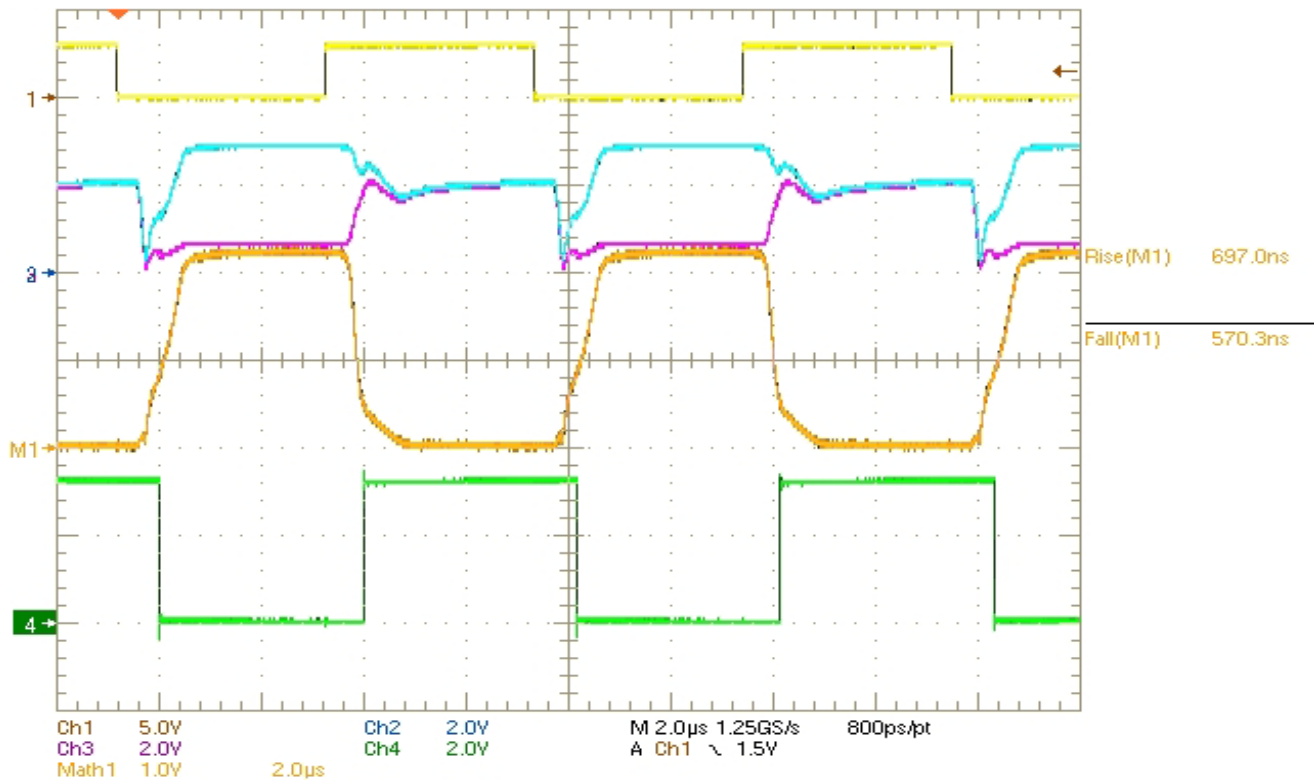

FIGURE 5. OSCILLOSCOPE PLOT (SLOW SPEED) WAVEFORMS AND MEASUREMENTS
13. The scope plot should look like the ones in Figure 5 on page 7.